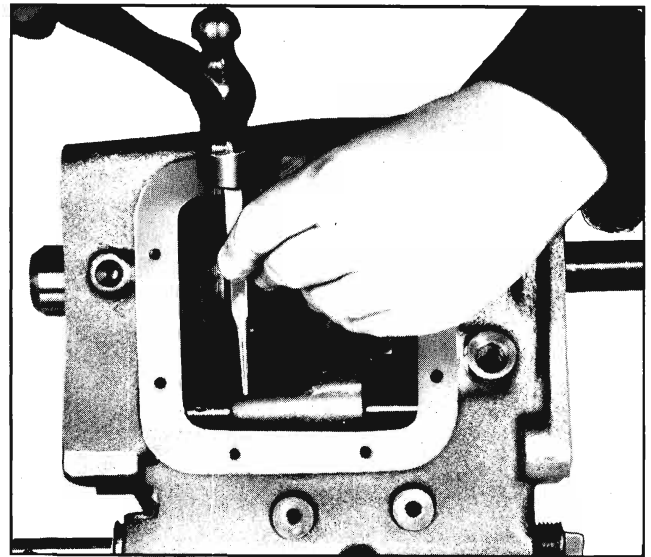

Fig. 7B-4 Removing Roll Pin
5. Move 1-2 shift fork (Fig. 7B-4) into second gear, then remove roll pin securing fork to shaft with a pin punch. Remove shift fork and shaft by tapping shaft out of case in either direction. Don't lose interlock pin from shaft or case.